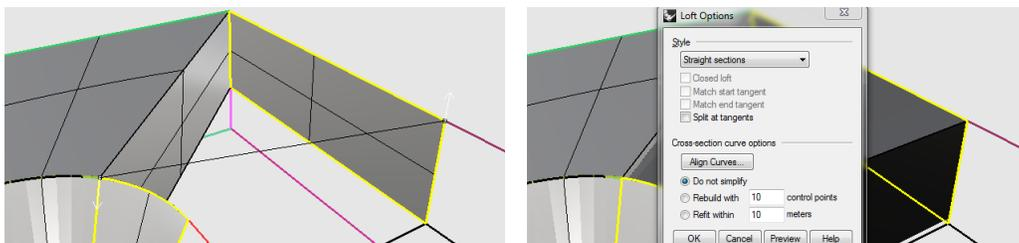

Figure 74: Lofting the two surface borders
- Again, the guide line in the Loft **preview** indicates that Rhino will connect the **wrong corners** (Figure 74, left). Click on any of the two **white points** at the ends of the guide line connecting the two surfaces, then click on the **appropriate corner** so that the guide line connects the right corners (right).